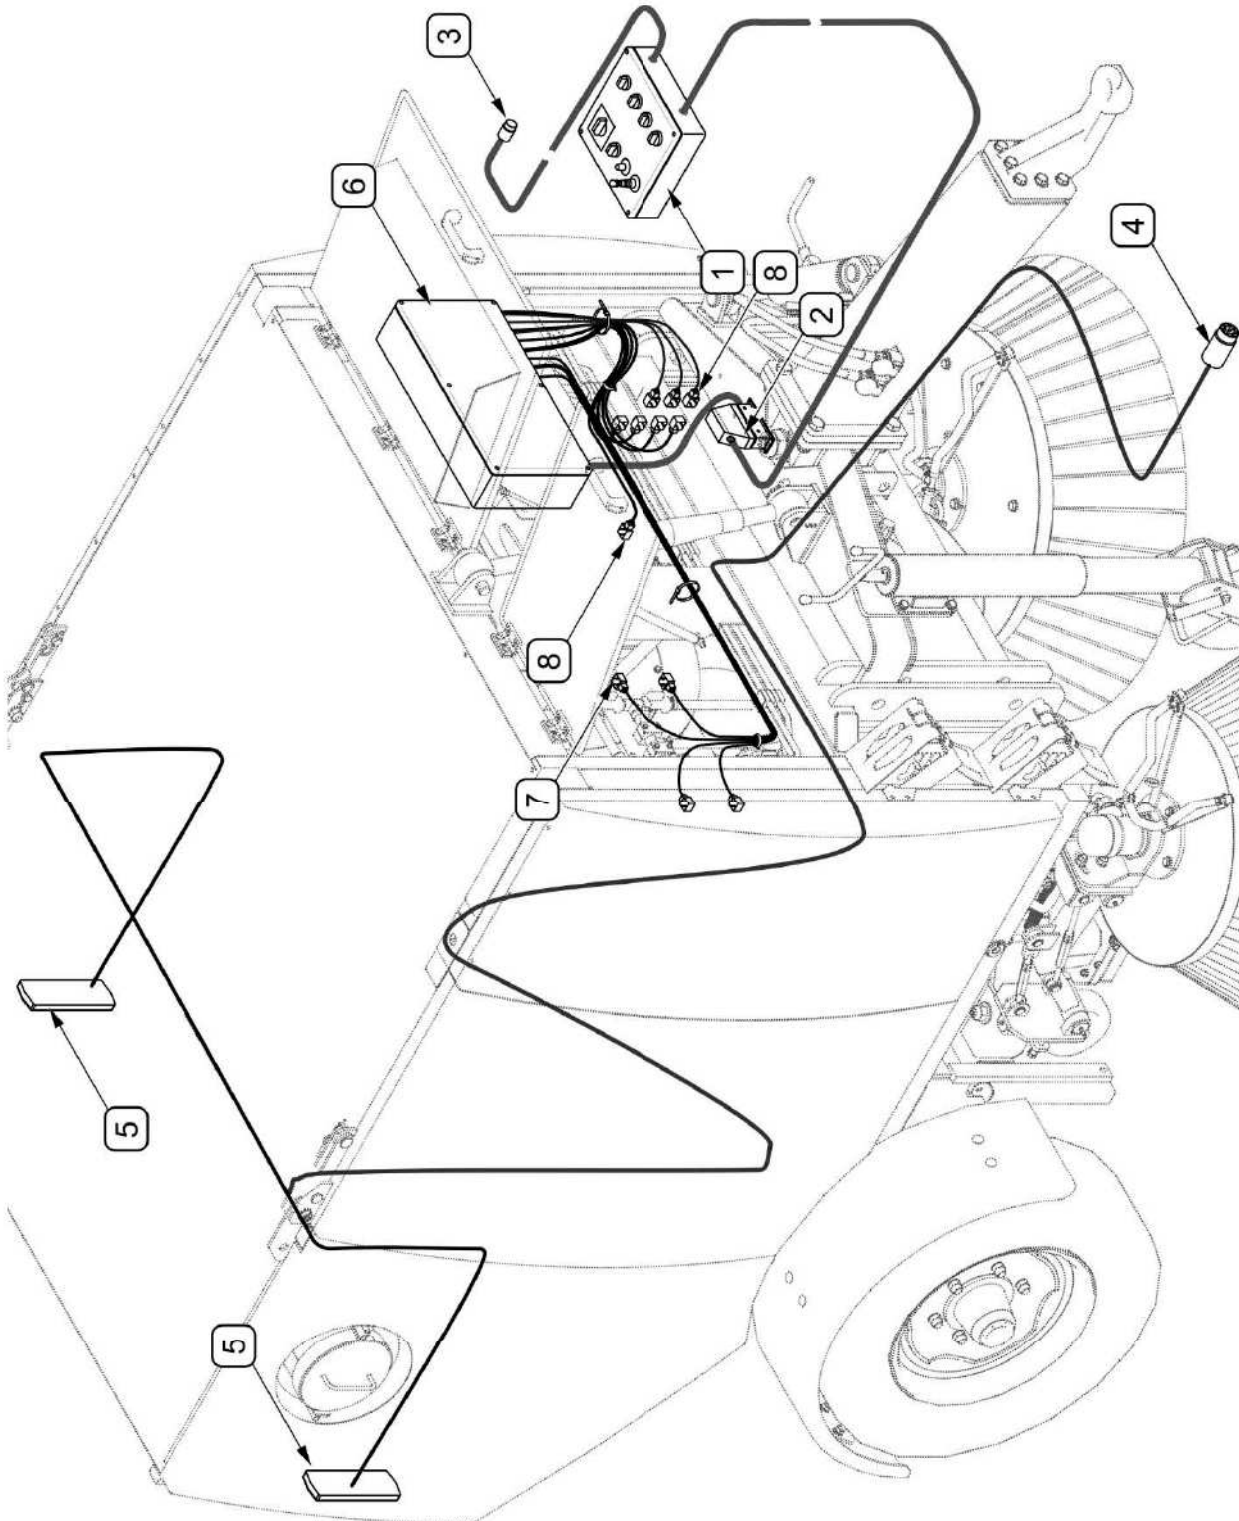

FIG. 3.10 Electrical system design
Electrical system diagram of ZMC2.0 sweeper is designed for 12 V DC supply. Connect electrical lighting system (FIG. 3.10) connector (4) to 7-pole socket on the tractor. Connect the sweeper's control panel plug (3) to 3-pin socket on the tractor.